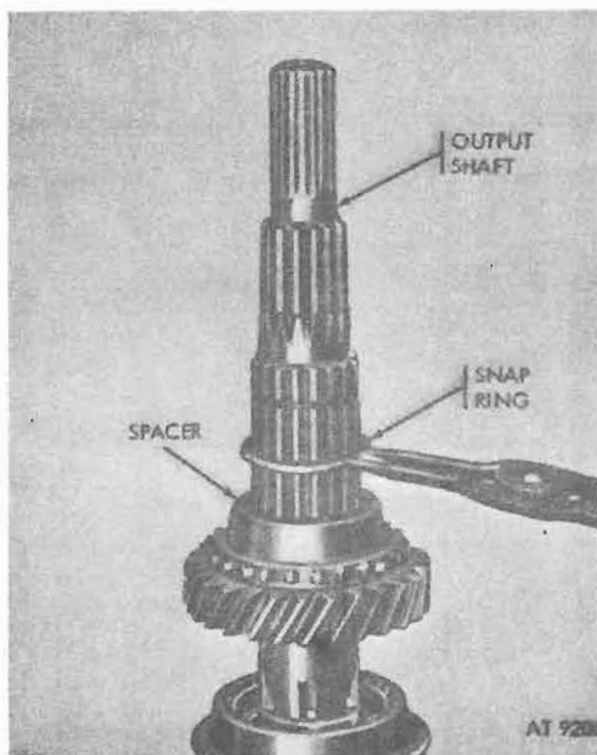

Figure 8-73. Bearing retaining snapping.
h. Remove bearing retaining snapping from output shaft (fig. 8-73).
e. Install bearing spacer and snapping on the output shaft. Refer to figures 8-73 and 8-74.